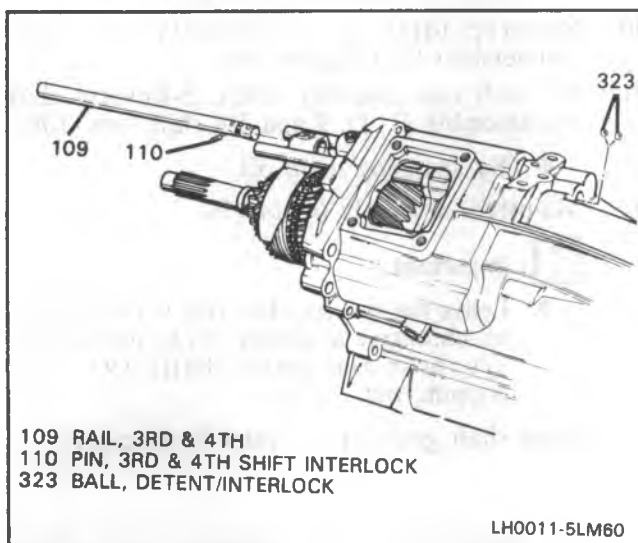
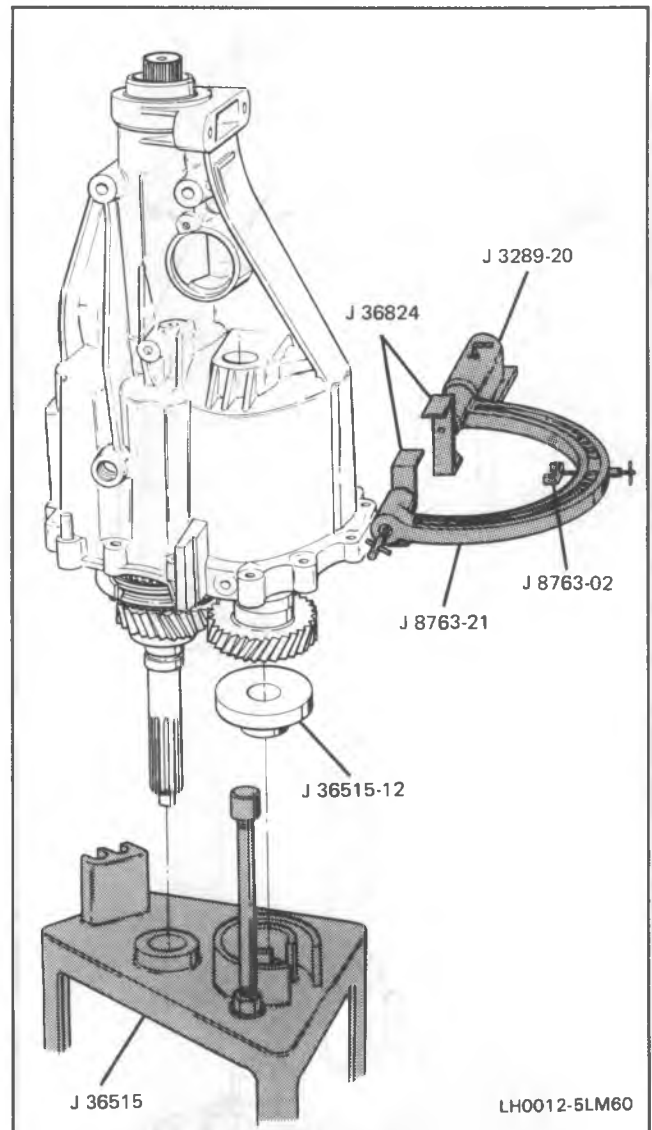

Figure 11 Removing 3-4 Rail and Interlock Balls
Figure 12 Removing and Installing Special Tools
- If roll pin (107) breaks off, put the transmission in 3rd gear and cut off remainder of roll pin then drive through, cocking roll pin so it clears the 3rd speed gear.
20. Plug (326).
21. 3rd and 4th rail (109) (Figure 11).
- Drive through the plug hole (326) enough to expose the roll pin hole (107) then insert a 3/8 in. punch or equivalent through the roll pin hole (107) and pull (while twisting) out the shift rail.
22. Two interlock balls (323).
- Install J 36515 with J 36515-12 (Figure 12).